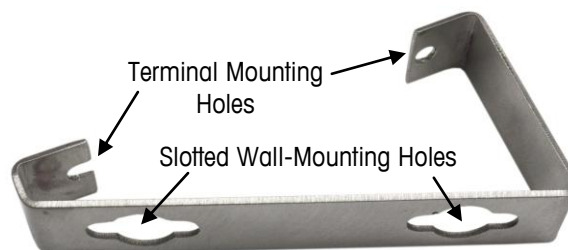
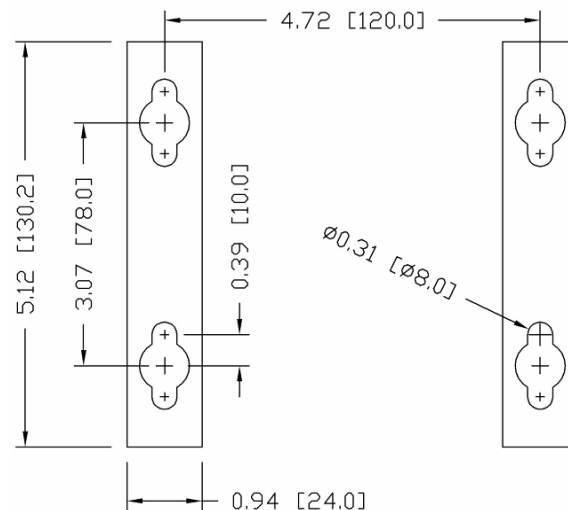

Figure A-9: Wall-Mounting Bracket
Figure A-11: Mounting Hole Pattern
Once the brackets are securely fastened to the wall surface, the enclosure can be mounted to them using the four supplied M5 screws. One bracket is shown in Figure A-9, with the slotted holes indicated. The screws are tightened by fitting the screwdriver through the slotted holes.
Mark the position of the mounting holes on the vertical surface per the dimensions shown in Figure A-11 in inches and [mm], or by holding the terminal up to the surface and marking through the bracket holes.
8. Back each bolt out enough to leave space for its head and the flat washer to engage the top center of one of the slotted holes in the mounting brackets (see Figure A-9 and Figure A-11).
6. Back the bolts out sufficiently to allow them and their washers to engage the top center of one of the slotted holes in the mounting brackets (see Figure A-9 and Figure A-11).
Install the screw and washer, leaving sufficient gap to accommodate the slotted hole in the bracket – see Figure A-9 and Figure A-11.
Place the holes in the terminal brackets over the fasteners, and slide the terminal down firmly so that each fastener and washer engages the slots in the bracket (see Figure A-9).